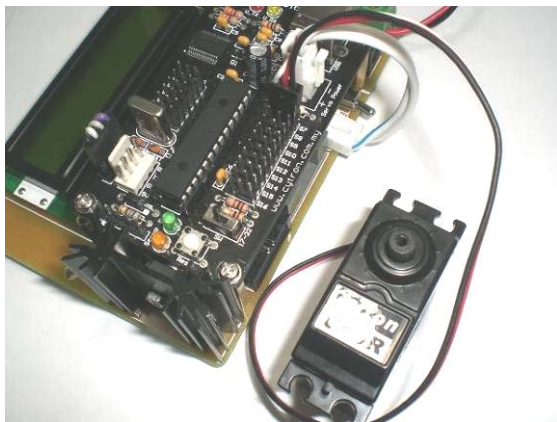

Figure 24
- I. Connect the servo motor to the completed circuit (with programmed PIC with **original program without modification**) as shown in figure 24. The channel can be any from **S7** to **S12**.